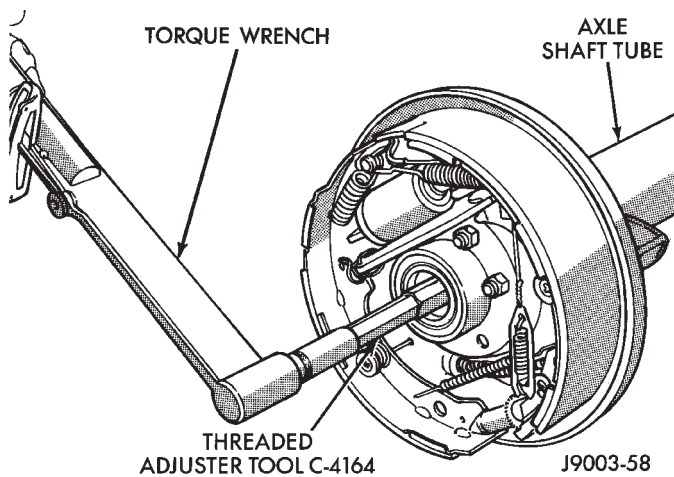

Fig. 29 Threaded Adjuster Tool
(1) Use Wrench C-4164 to adjust each threaded adjuster inward (Fig. 29) until the differential bearing free-play is eliminated. Allow some ring gear backlash (approximately 0.01 inch/0.25 mm) between the